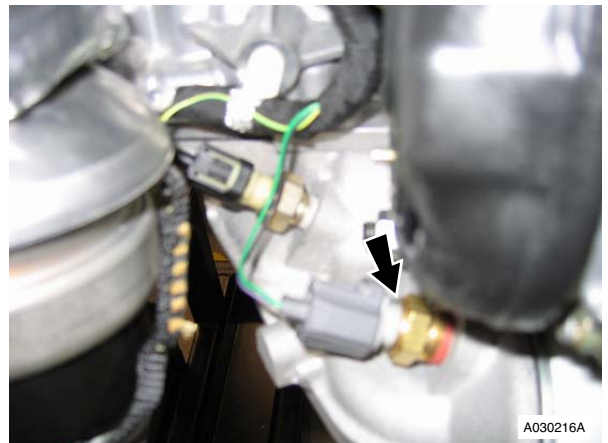

Figure 6
- Disconnect multiplug from engine electric coolant temperature sensor (see Figure 6).